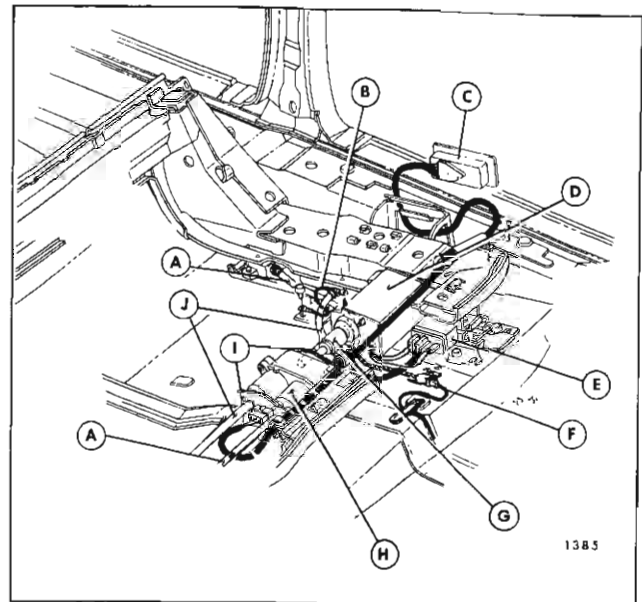

Fig. 1H5—Four-Way Full-Width Seat Electric Wiring
2. Remove both driver and passenger inboard seat belt floor pan attaching bolt. Remove both seat adjuster track covers; then turn back floor carpeting sufficiently to expose adjuster-to-floor pan attaching bolts. (See Fig. 1H10).
4. Under front of seat, disconnect seat harness feed connector and detach seat harness from clip on floor pan (Fig. 1H5).